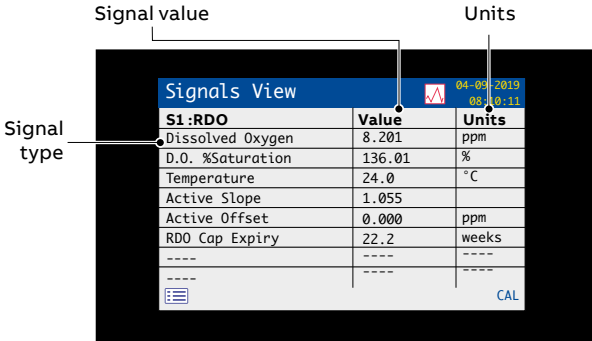

Figure 8 Signals View
- **Signals View** – displays a list of active signals and their values (1 page per sensor) – see Figure 8